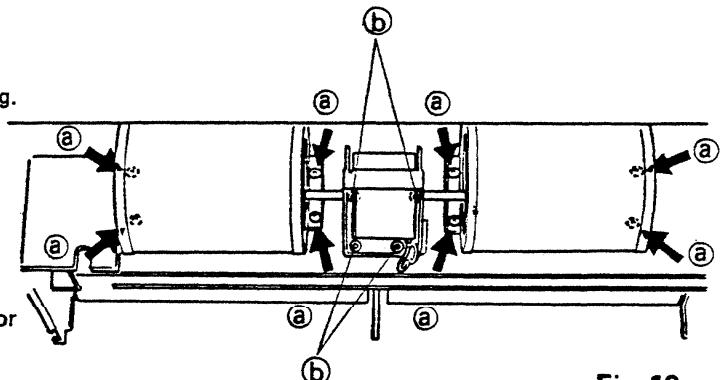

Fig. 10
- 3) Remove the four nuts (b) fixing the fan motor stand. Fig. 10